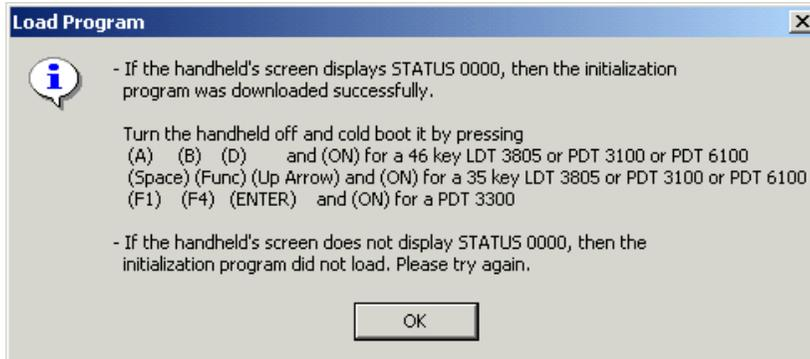

Figure 20. Cold booting the PDT
15. If loaded successfully you will see Status 0000 on your PDT. Follow the steps in Figure 20 to cold boot the PDT.